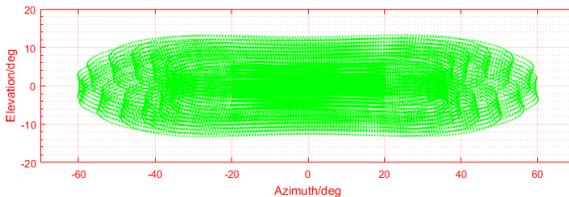

Figure 1.2.1 Point Cloud Allocation of the HAP (TX) within 0.1s (coordinates units:  $^\circ$ )
Figure 1.2.1 displays the point cloud allocation of the HAP (TX) inside the FOV within 0.1s. In the center of the FOV, the scanning density is denser, with the average spacing of lines being  $0.2^\circ$  (most line spacing is from  $0.1$  to  $0.3^\circ$ ), which is much denser than traditional 64-line LiDAR sensors. The two areas on both sides have a lower scanning density and average spacing lines of  $0.3^\circ$  (most line spacing is between  $0.2$  to  $0.5^\circ$ ), rivaling traditional 64-line LiDAR sensors within 0.1 seconds.